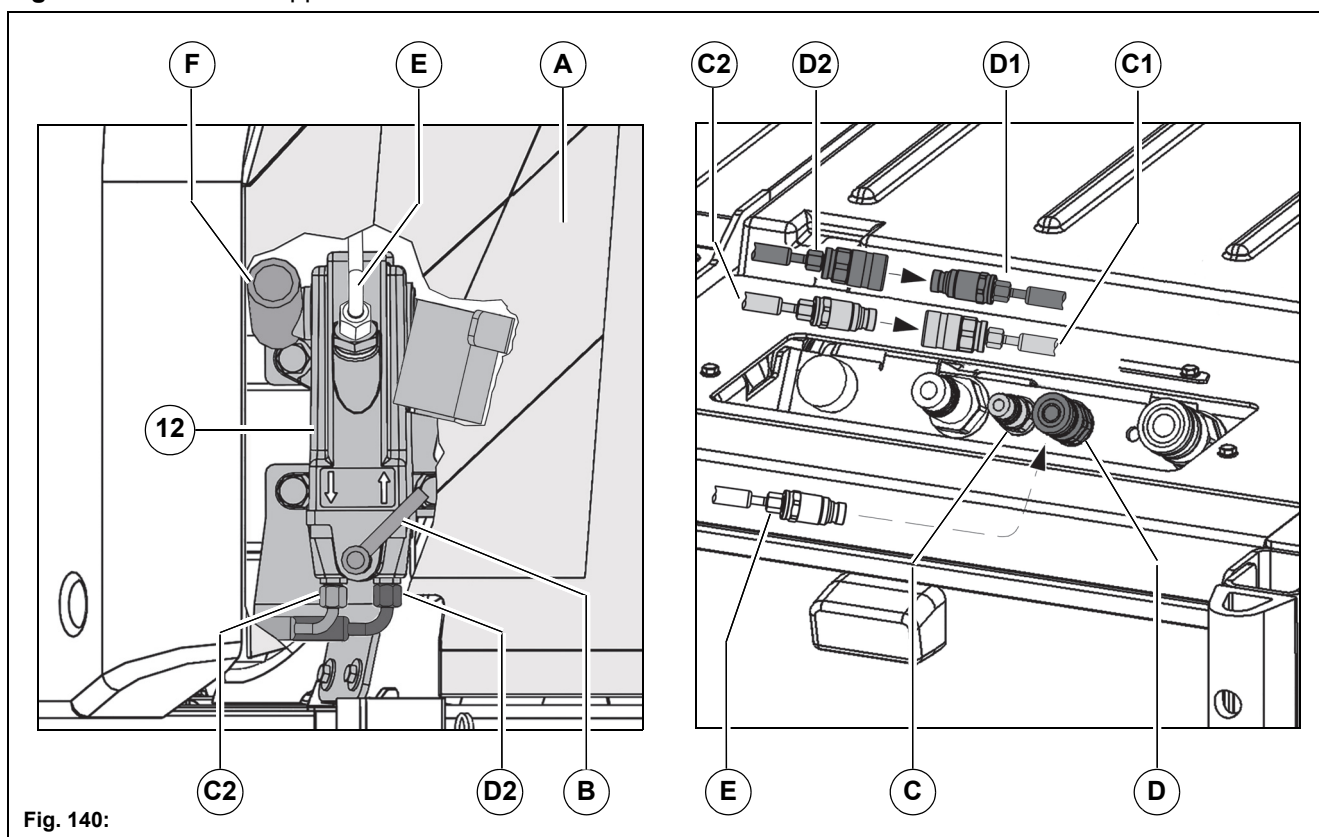

Fig. 140:
The hydraulic hand pump **Fig. 140-123** is used for raising the dirt hopper on failure of the vehicle hydraulics and is located behind the rear flap **Fig. 140-A** of the dirt hopper.
- Remove the supply hose **Fig. 140-C1** from the supply connection **Fig. 140-C** of the rear wagon.
- Remove the return hose **Fig. 140-D1** from the return connection **Fig. 140-D** of the rear wagon.
- Connect the supply hose **Fig. 140-C1** to the supply hose **Fig. 140-C2** of the hand pump.
- Connect the return hose **Fig. 140-D1** to the return hose **Fig. 140-D2** of the hand pump.
- Connect the hydraulic hose **Fig. 140-E** (hydraulic tank of the hand pump) to the return connection **Fig. 140-D** of the rear wagon.
- Raising the dirt hopper: Lever **Fig. 140-B** to the right
- Lowering the dirt hopper: Lever **Fig. 140-B** to the left
- Insert the pipe of the auxiliary tool **Fig. 60-24** as a lever into the sleeve **Fig. 140-F**